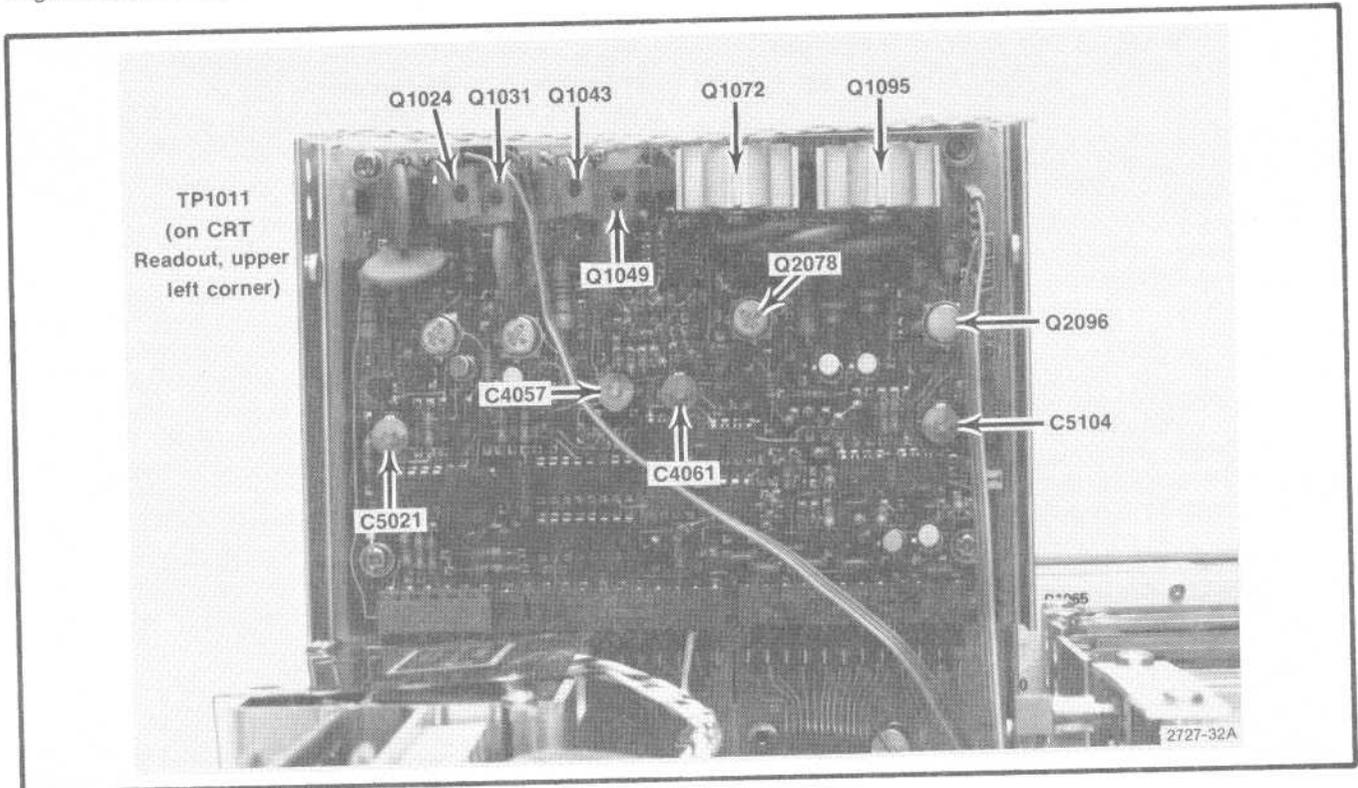

Fig. 3-27. Test points and adjustments on the Deflection Amplifier board for gain and frequency response calibration.
j. Connect the test oscilloscope probe to the collectors of Q1031 and Q1024. Adjust C5021 (Fig. 3-27) for the best frequency response (no overshoot or rolloff).
k. Connect the probe to the collectors of Q1043 and Q1049. Adjust C4057 (Fig. 3-27) for the best response.
l. Connect the probe to the collectors of Q1072, Q2078 (Fig. 3-27), and adjust C4061 for the best response.
m. Connect the probe to the collectors of Q1095, Q2096 (Fig. 3-27), and adjust C5104 for best response.